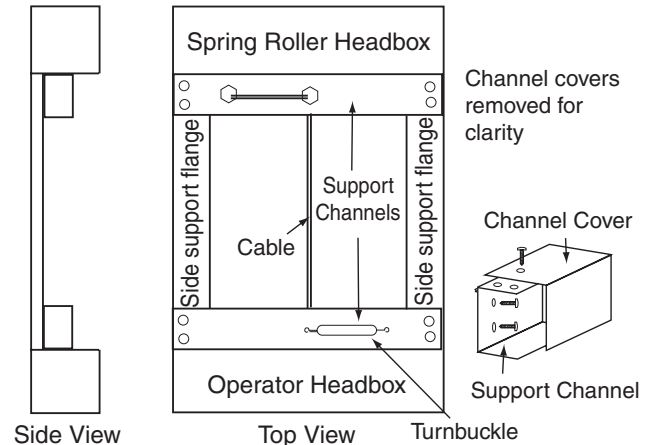

Figure 11
- ① Make sure unit is square.
- ② Install the motor roller and spring roller assemblies by following instructions in the "Roller Assembly/Installation" section.
- ③ Remove finished channel covers from from support channels.
- ④ Attach support channels to the side support flanges through the pre-drilled holes (see Fig. 11). Make sure fuzzy protective strips along bottom of support channels face inside, away from the headboxes.